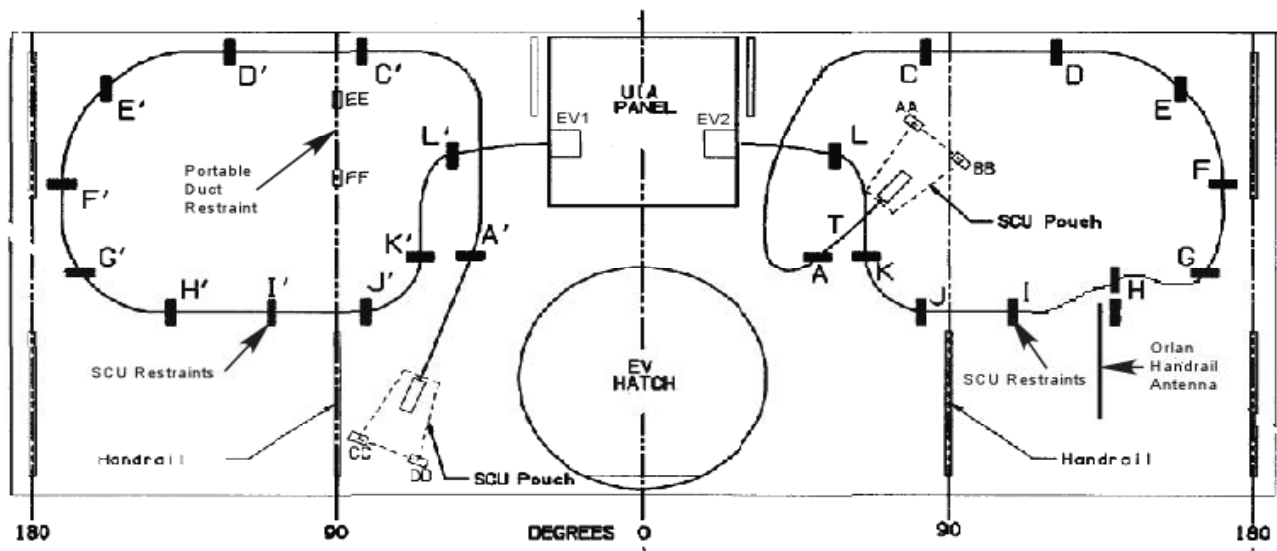

Figure 2.- SCU Routing in Crewlock.
21. Route SCUs along C-Lk wall according to Figure 2 using 11 restraint straps per SCU.